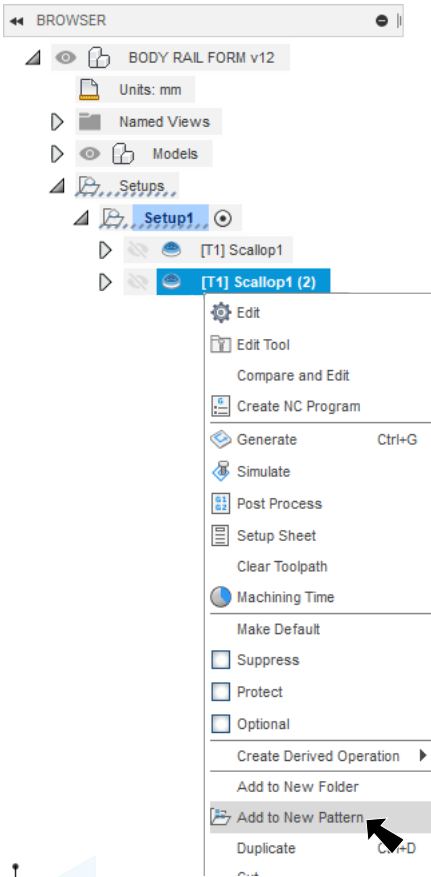

Fig. 49
Step 2. Right click Scallop 1(2) Toolpath  and click **Add to New Pattern**, Fig. 49.